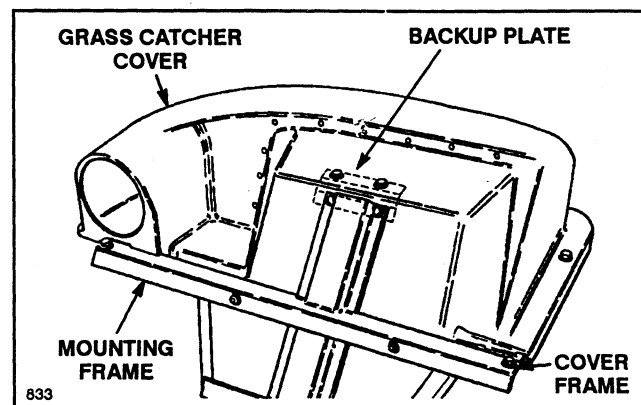

Figure 3
1. Loosely secure mounting frame to grass catcher cover with backup plate, (4) 5/16 x 1" capscrews, flat washers, and locknuts (Fig. 3 & 4). Washers to be positioned on outside of grass catcher cover with backup plate inside cover.
2. Secure mounting frame to grass catcher cover frame with (2) 3/8 x 1" capscrews, flat washers, and locknuts as shown in (Fig. 3). Washers to be positioned on top side of assembly. Tighten all mounting fasteners.